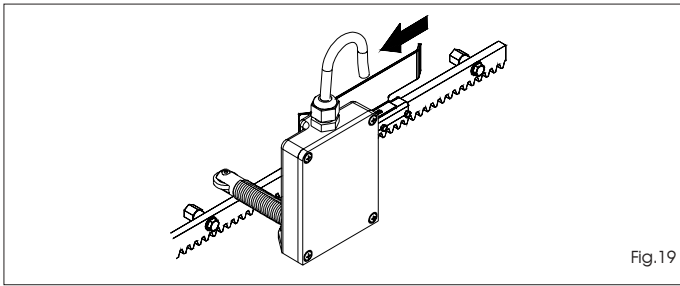

Fig.19
6) Repeat the operations at points 4 and 5 for the closing limit switch, Fig. 19.